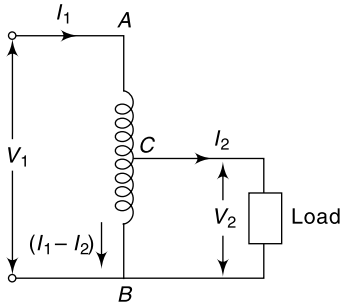

Fig. 8.21 Step down auto transformer
An auto transformer is a single winding transformer in which a part of the winding is common to both the high voltage and low voltage side. Figure 8.21 shows a step down auto transformer. The primary winding AB has N_1 number of turns and the secondary winding BC has N_2 number of turns. The winding BC is common to both the primary and secondary. The induced emf in the primary winding AB is
- There is direct connection between the high voltage and low voltage side. If there is an open circuit in the winding BC (Fig. 8.21) the full primary voltage would be applied to the secondary. This high voltage may cause serious damage to the equipments connected on the secondary side.